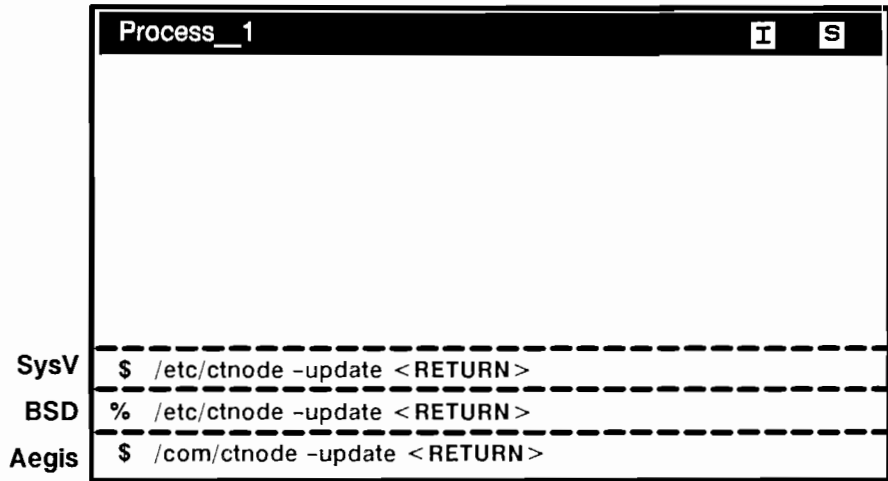

Figure 9-3. Cataloging New Systems on the 802.3 Network
4. Catalog all new HP Apollo systems on the 802.3 network by typing the **ctnode** command as shown in Figure 9-3.